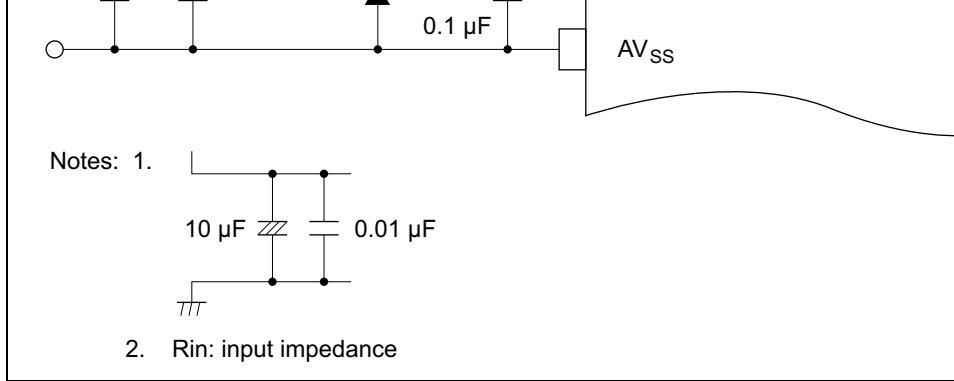

Figure 15.7 Example of Analog Input Protection Circuit
5. Note on Noise: To prevent damage from surges and other abnormal voltages at the analog input pins (AN_0 to AN_7) and analog reference voltage pin (V_{REF}), connect a protection circuit like the one in figure 15.7 between AV_{CC} and AV_{SS} . The bypass capacitors connected to AV_{CC} and V_{REF} and the filter capacitors connected to AN_0 to AN_7 must be connected to AV_{SS} . If the filter capacitors like the ones in figure 15.7 are connected, the voltage values input to the analog input pins (AN_0 to AN_7) will be smoothed, which may give rise to error. Error may occur if A/D conversion is frequently performed in scan mode so that the current through the capacitor and discharges the capacitor in the sample-and-hold circuit of the A/D converter becomes larger than that input to the analog input pins via input impedance R_{in} . The circuit should therefore be selected carefully.